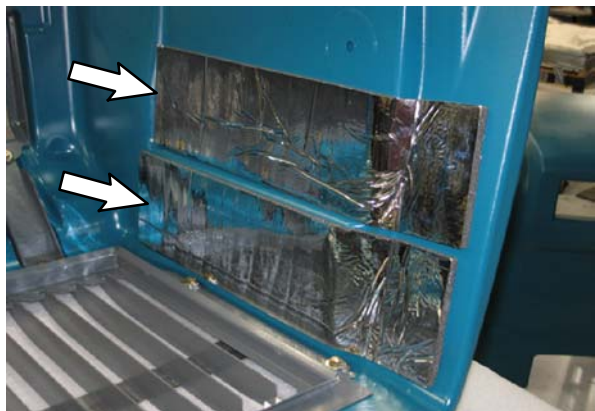

FIG. 85
106. Install two pieces of insulation (68) onto the right rear cover (78). (Fig. 85)